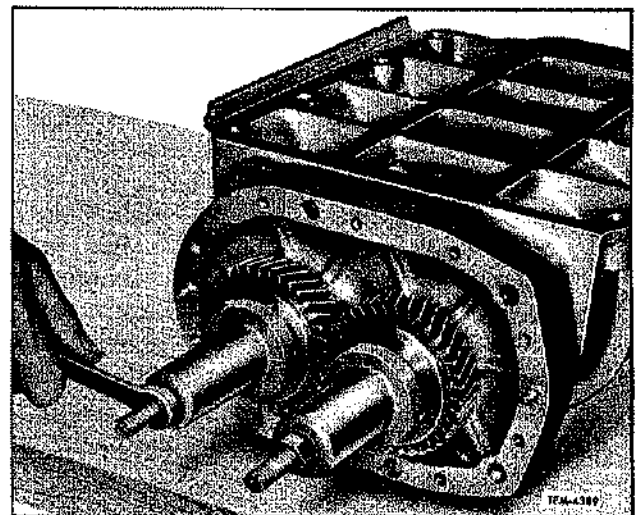

Figure 23—Installing Blower Rotor Gears
3. Attach blower gear installing tools J-6270-6 and J-6270-7 with puller screws J-6270-8 and J-6270-9 threaded into blower shafts as illustrated in figure 23. Install lower gear first until $\frac{1}{8}$ " of splines protrude.